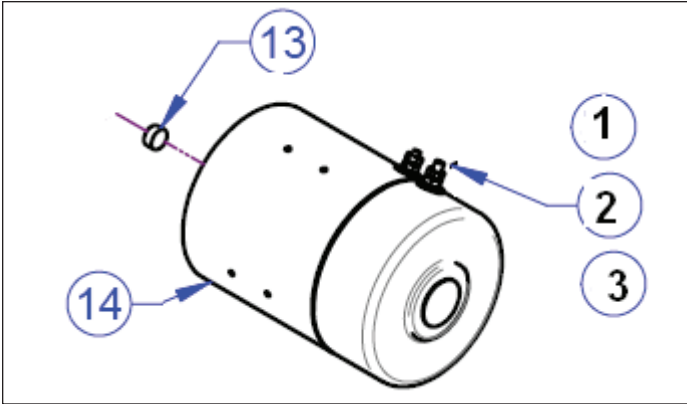

Figure 7-5. Motor Terminal Hardware
3. See Figure 7-5. Remove nuts (1), lock washers (2) and flat washers (3) and remove electrical cables from the terminals.